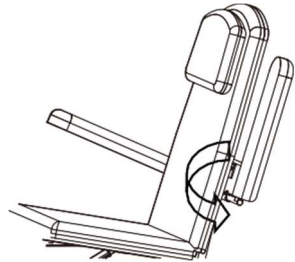

Figure 10
- The retractable state of the armrests can be adjusted by rotating the rods. (Figure 10)